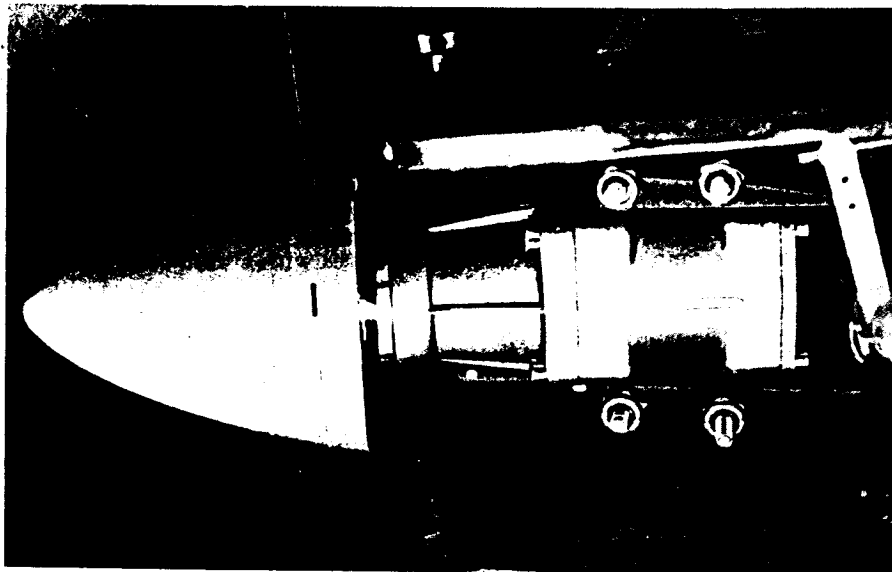

Fig. 11-3. If you do not tap the engine mount, you will need to retain the mounting bolts with nylon-insert lock nuts.
2) If you intend to tap the engine mount to take the mounting bolts, heed THE MANUAL's instructions on mounting the engine with the following exception: If you're using an engine larger than .25 cubic inch, use 6-32 mounting bolts, not 4-40 bolts. If you plan to secure the engine without tapping the mount (see Fig. 11-3), follow the instructions in Chapter Four (Preliminary Radio Installation).